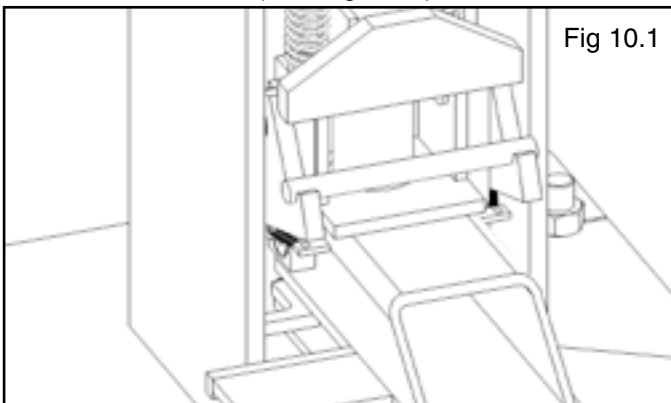

Fig 10.1
1. Make sure the Power Unit reservoir is full with five (5) gallons of 10-WT hydraulic oil or Dexron-III automatic transmission fluid.
5. Check to make sure that all Cable Break Safety locks are cleared and free. (See Fig. 10.1)